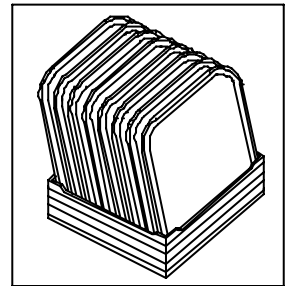

Fig.12
- Put trays in the baskets, making sure it is in its separate rack (Fig.12).